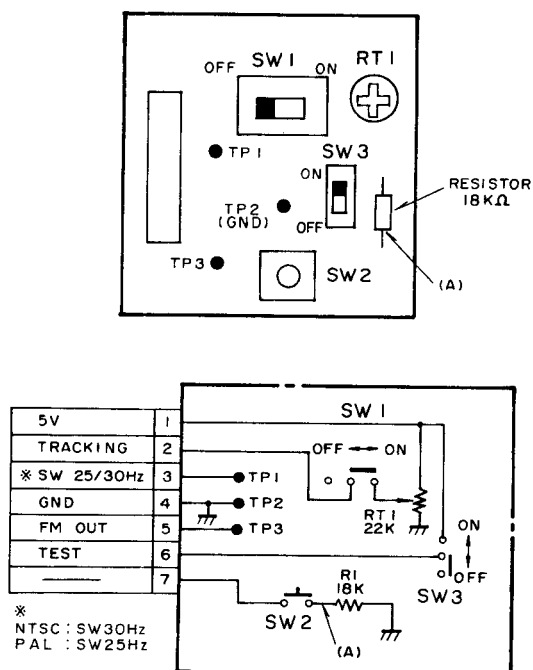

Fig. 7-1
Caution: Before performing this adjustment, refer to Fig. 7-1 and modify the ATF-R jig. Connect the ATF-R jig before supplying power.
7. MODIFICATION TO ATF-R JIG (Fig. 7-1)